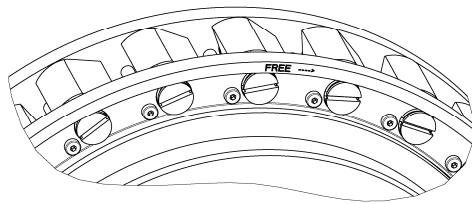

Figure 4: Clamp bodies “neutral position“
- Lift the inner race (2) including the cage (8) out of the outer race (1). Use appropriate lifting gear at the threaded hole of the inner race for this
- Place the inner race (2) including the cage (8) facing downwards the label "FREE" on an assembly table
- Secure (see Fig. 4 and 5) the clamp bodies in lift-off position (against the spring force) using an O-ring / cable connector as an assembly aid